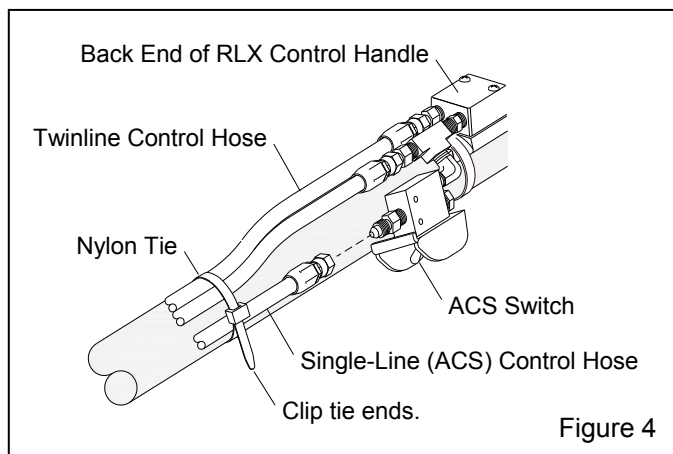

Figure 4
**2.2.1.2** When using the ACS option, attach the 50-foot single-line control hose to the fitting on the ACS switch mounted on the control handle, as shown in Figure 4.